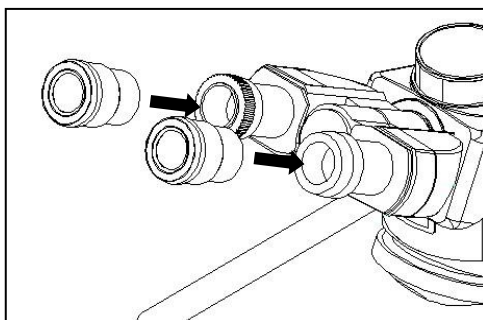

Fig.5
2.1.3 Installing the Eyepiece (Fig.5)